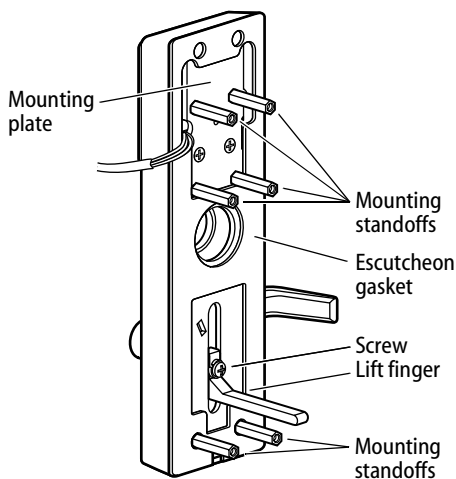

Figure 3 Removing and reinstalling the mounting standoffs, gasket, and lift finger
- 1 Unscrew the six mounting plate standoffs from the mounting plate (Figure 3).
- 5 Position the washer on the lift finger screw. Tightly secure the lift finger with the lift finger screw (25–30 foot-pounds of torque) (Figure 3).
- 7 Screw the six mounting standoffs onto the mounting plate (Figure 3).